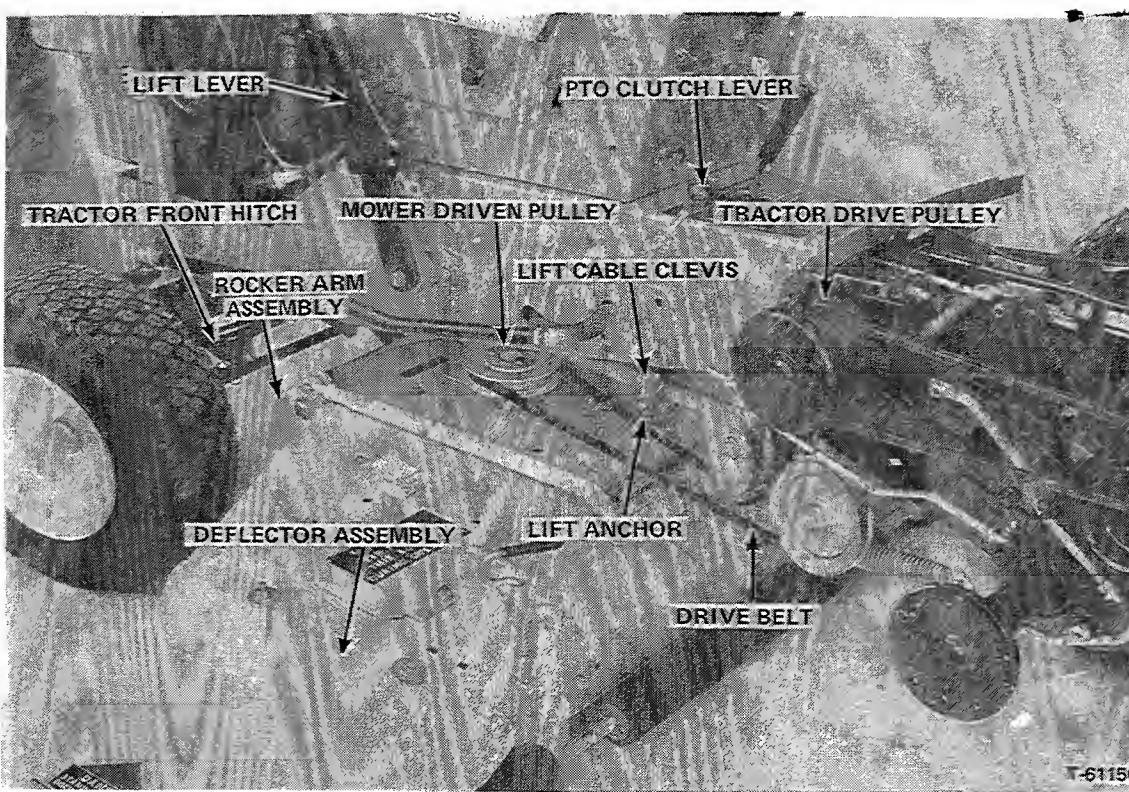
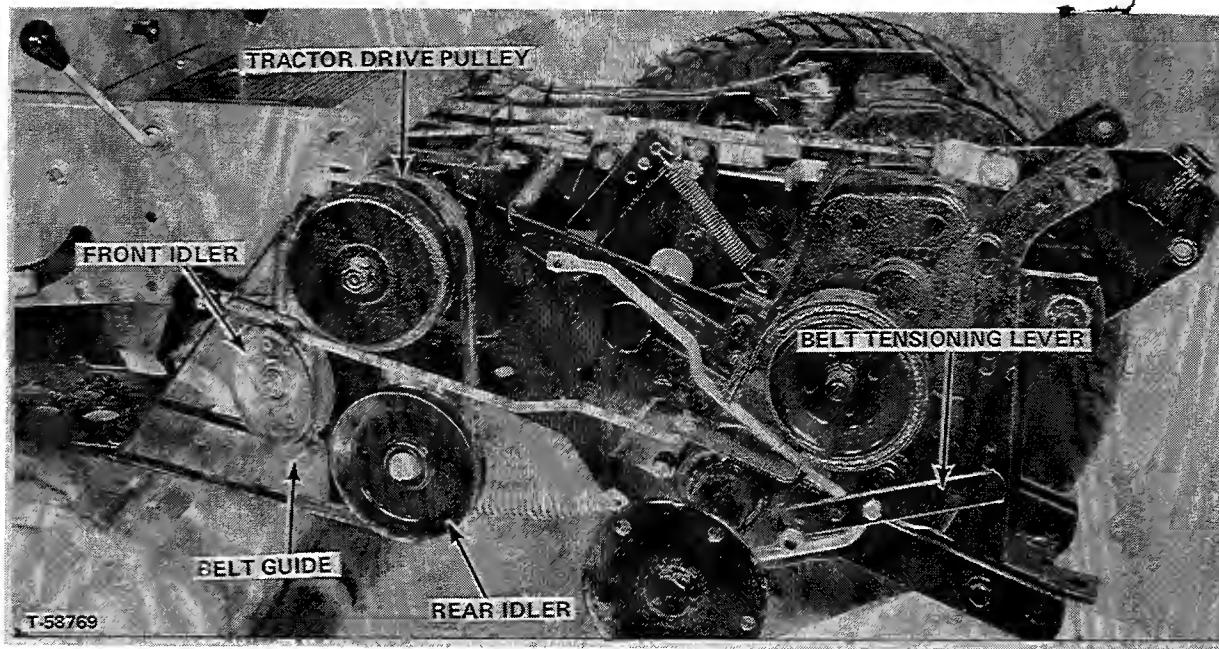

FIGURE 7 - 42" Mower on 712-S Tractor (Seat Deck, L.H. Foot Rest and L.H. Wheel Removed for Visibility)
FIGURE 8 - (Seat Deck and L.H. Rear Wheel Removed)
1. Park the tractor on level ground with the mower positioned on left hand side. Turn the front wheels fully away from the mower to give clear access to the tractor side. Slide the mower underneath the tractor, then straighten the front wheels. Move the lift lever forward and attach the lift cable clevis to the lift anchor on the top of mower with pin and lock pin (Figure 7).
2. Partially raise the mower lift and attach the mower rocker arm assembly to the holes in tractor front hitch using round head pins and lock pins (Figure 7).
3. Disengage the tractor power take off lever. Push the belt tensioning lever, (Figure 8) all the way down. Loosen the bolt that holds the belt guide on the front idler. Place the mower drive belt over the mower driven pulley, the tractor drive pulley and the front and rear idlers as shown in Figures 7 and 8. Make sure that flat top of the belt contacts the front idler. Locate belt guide as shown and tighten bolt. Raise belt tensioning lever to tighten belt.
2. Disengage the P.T.O. lever and lower the belt tensioning lever (Figures 7 and 8). Loosen the bolt that holds the belt guide to the front idler and remove the drive belt from the tractor drive pulley and idlers and from the mower driven pulley.